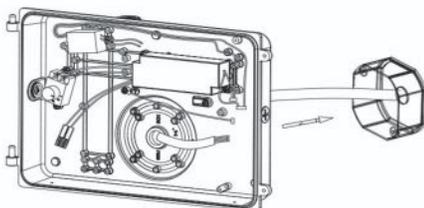

Fig. 1-3A
3. Loosen the plug on the bottom plate, then put the wiring through the hole, screw the bottom cover with junction box on the wall. (Fig. 1-3A&B)